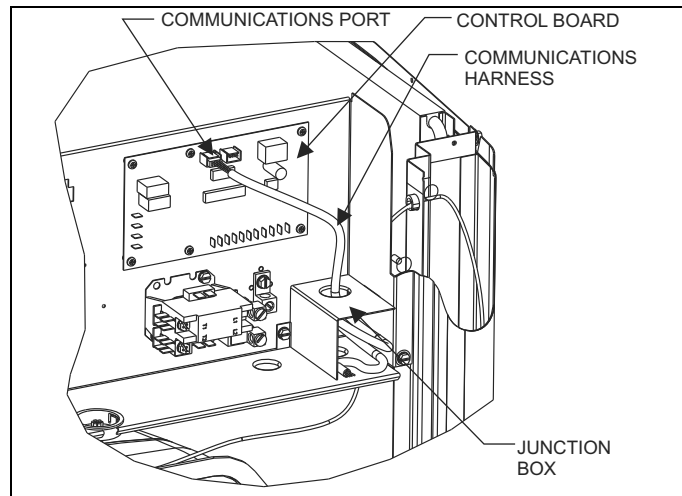

FIGURE 6: Communications Harness Connection
2. Route low voltage four conductor shielded thermostat communications harness into junction box and connect to communications port on control board. See Figure 6 "Communications Harness Connection".